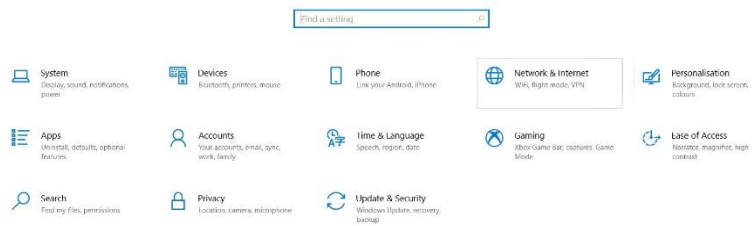

Fig. 9
3. Choose Network and Internet (Fig.9).